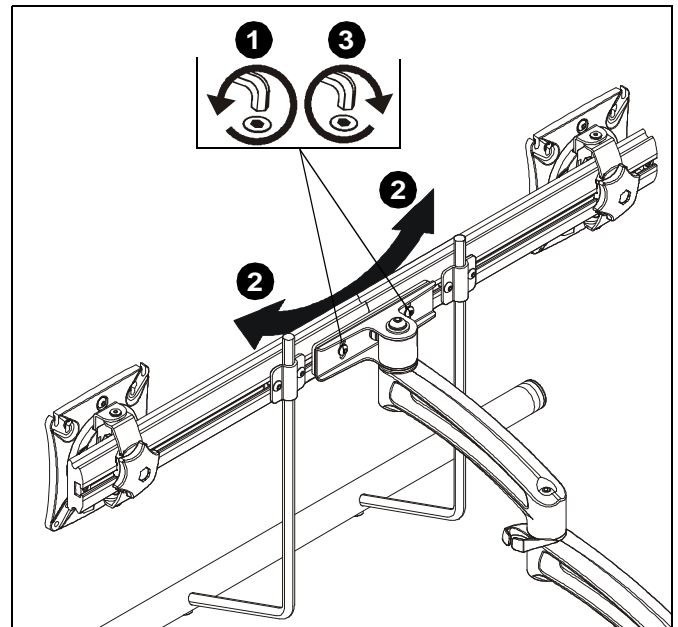

Figure 22
1. Loosen roll adjustment screws on back of array bracket. (See Figure 22)
2. Adjust roll of array bar as desired. (See Figure 22)
3. Tighten roll adjustment screws on back of array bracket. (See Figure 22)